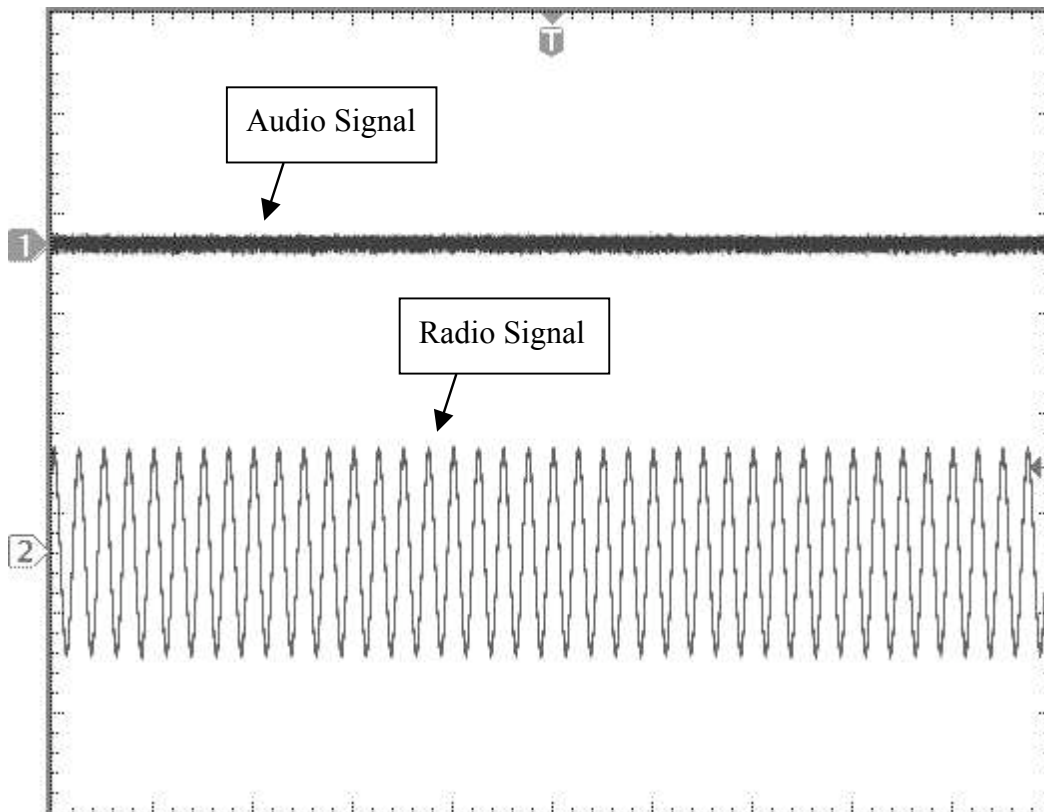

Figure 1: Radio wave with no modulation
A.M. modulation changes the amplitude of a high frequency, sinusoidal electromagnetic wave by an amount proportional to the amplitude of the sound wave. Figure 1 shows a radio signal with no modulation.